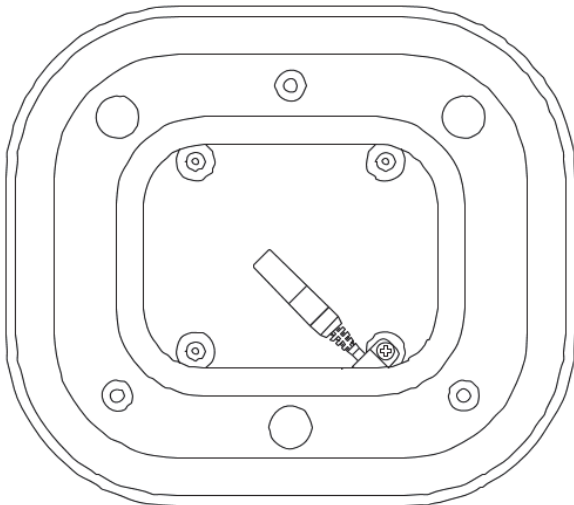

Figure 3: Temp/RH Sensor mounted in the Solar Radiation Shield M-RSA
- Solar Radiation Shield: Use the washer and screw (included with the M-RSA radiation shield) or cable clamps (included with the RS3 radiation shield) to secure the smart sensor in the radiation shield as shown in Figures 3 and 4.